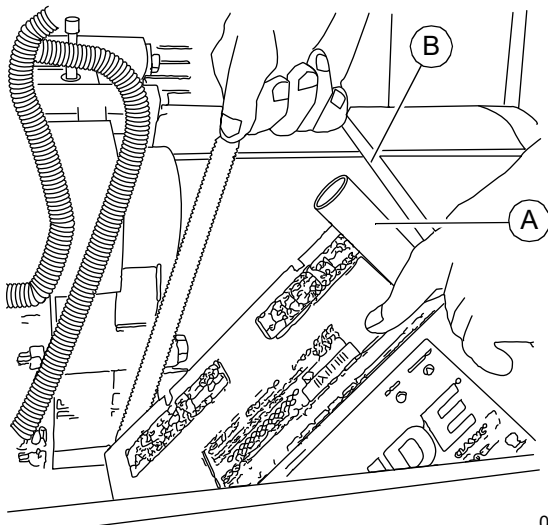

Figure 5-11. Remove/Install Battery
3. See Figure 5-11. Install rubber protective cover over positive (+) battery terminal (A).